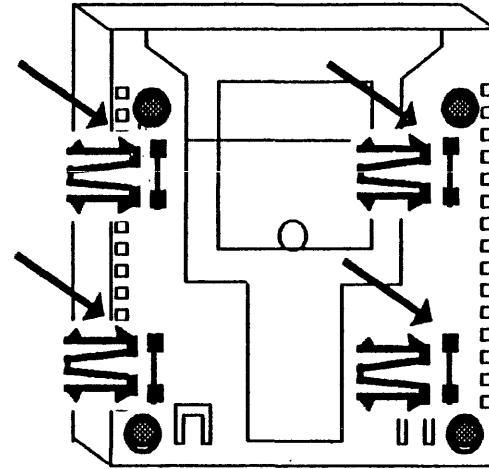

Figure 13. Bottom View of the Floppy Disk Drive
1. Carefully turn the Floppy Disk Drive over and insert the tops of the "M" shaped clips into the bottom of the Floppy Disk Drive as shown in Figure 13.